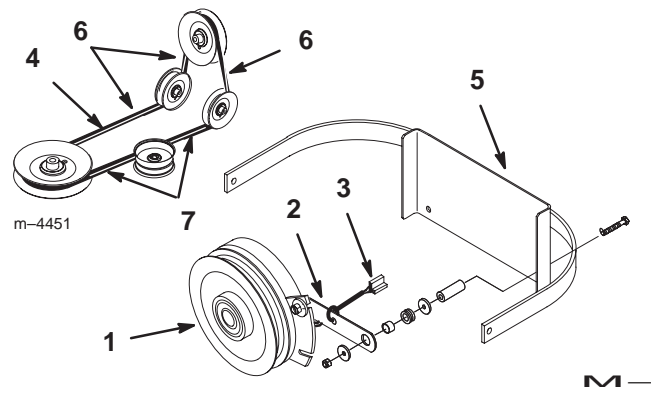

Figure 60
2. Remove the clutch retaining strap from machine frame and unplug clutch terminal from wire harness (Fig. 60).
3. Remove PTO drive belt from rear idler arm and front idler pulley assembly. Remove the PTO drive belt (Fig. 60).
4. Place new drive belt over clutch, around rear idler pulley, installed into rear idler arm assembly, installed into front idler pulley assembly and onto top center pulley (Fig. 60).
Important Check the amount of twist in belt between pulleys. Make sure it is only what is specified in figure 60.
5. Install clutch retaining strap and plug clutch terminal into main wire harness (Fig. 60).